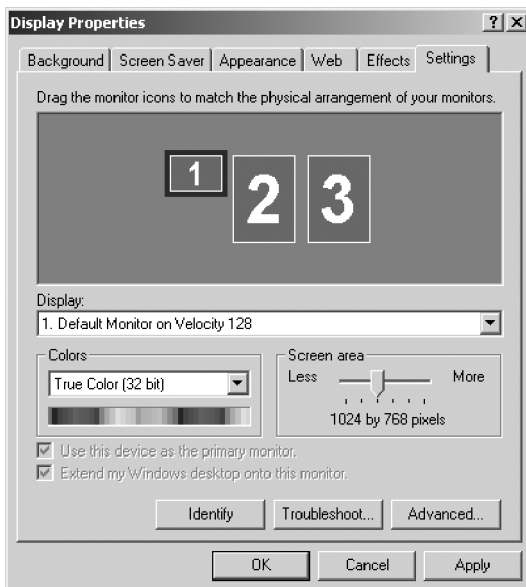

Figure 48: The Windows Display Properties Control Panel Settings Tab after the drivers have been installed and the resolution set with DualView Enabled.
**Note:** The system shown in figure 48 above is a dual-head, single BarcoMed 5MP2FH Display Controller, with a 3rd party VGA controller configuration. Your system may look different.